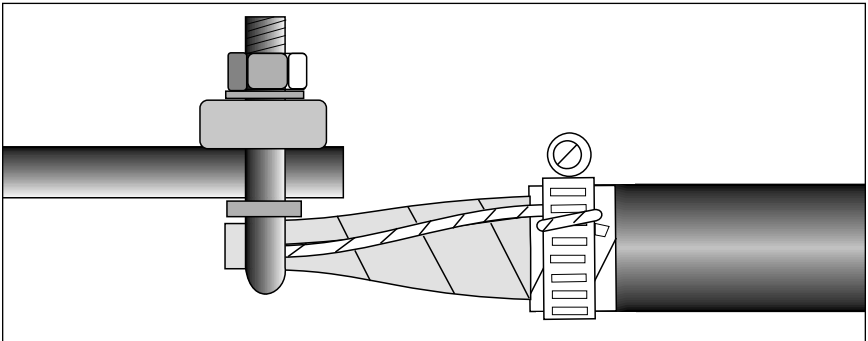

Figure 34: Grounding option for connection to a ground rod
1. Parallel splicing - use two Ericore cables in parallel with the Dual Terminal Adaptor kit that allows you to install two Ericore cables at the top of the mast (See Figure 34), or